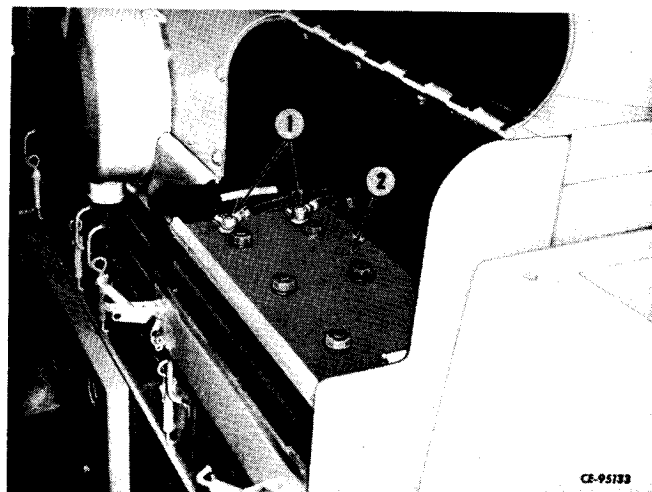

Figure 2-35
With batteries (2, Fig. 2-35) cleaned and installed on each side of unit, install and tighten battery cables to the correct battery posts (1). Install ground cable last. Refer to Section 12, "ELECTRICAL SYSTEM" for additional information.